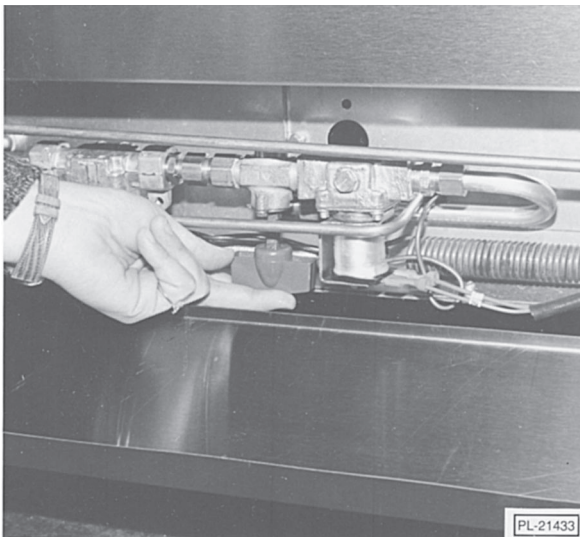

Fig. 13
2. Turn red gas valve "ON" (located behind the kick panel), purging the gas line of all air (Fig. 13). Turn gas valve and power switch "OFF". Close oven door.